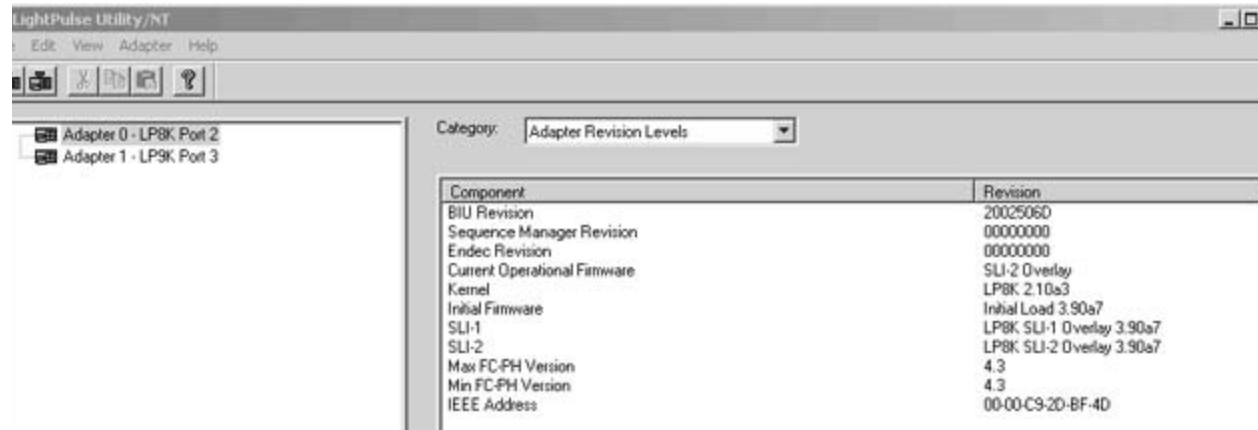

Figure 2: HBA Information (partial view)
4. Make sure that the Parameters radio button is selected and click **Defaults** (see Figure 2). The following window is displayed: